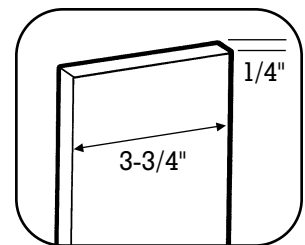

Fig. 29
- Post Clad for covering 4x4 posts (optional) (12' length; approximately 0.60 lb. per ft.) (Fig. 29) – 4 pieces per post